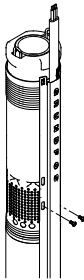

Fig. 9
3. Fasten the cable guard to the pump suction strainer with the two self-tapping screws supplied, see fig. 9.